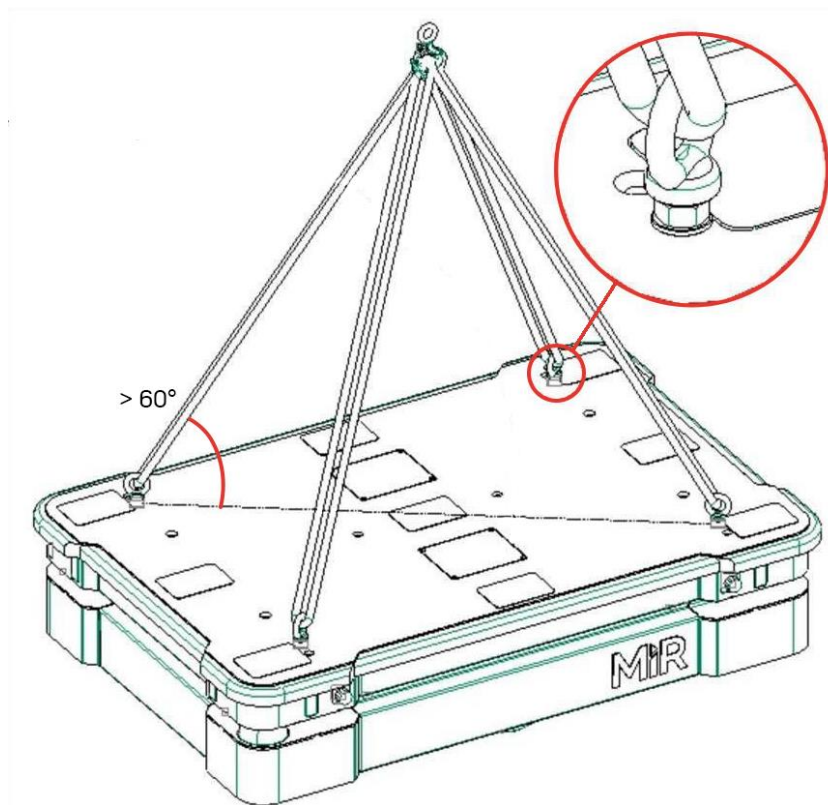

Figure 14.1. Illustration of how to lift MiR1350.
It may be necessary to lift the robot while servicing it. To lift the robot, use the four M12 mounting holes in the corners of the top cover of the robot—see *Figure 14.1*.
- The angle between the top cover and sling must be greater than 60°—see **Figure 14.1**.